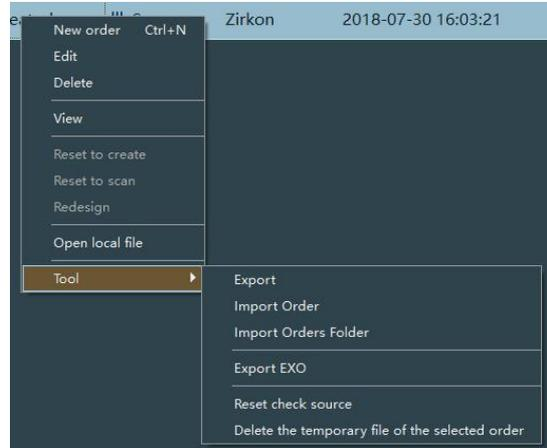

Figure 2-3
**Right click:** select the order and right click or right click at the blank area, pops up the menu as figure2-3.